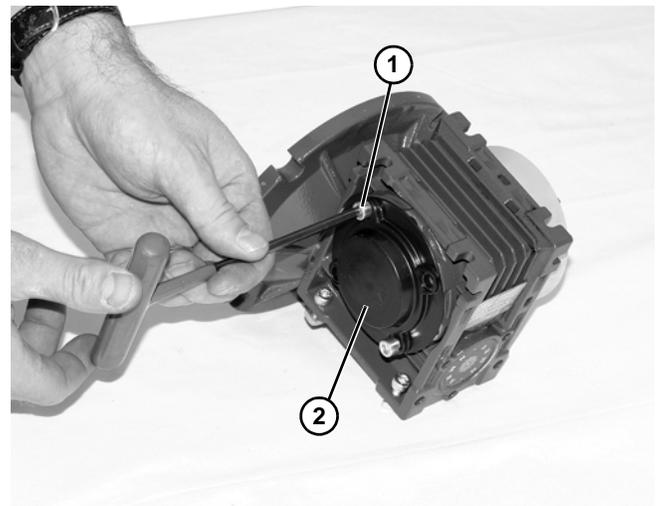

Figure 19
- Remove two (2) screws (**Figure 19, item 1**) and detach output shaft cover (**Figure 19, item 2**).